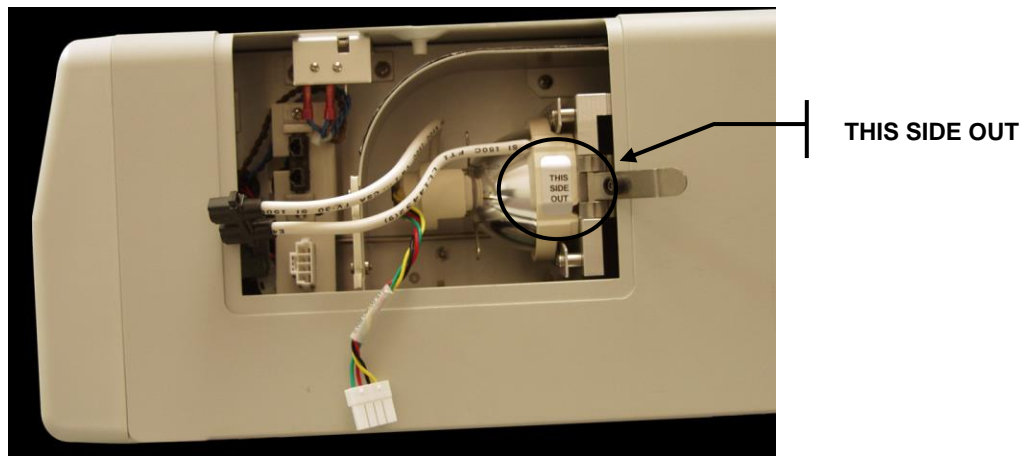

Figure 5 Lamp Orientation
4.1.5 Position the lamp so that the two leading edges of the lamp ceramic mount slide into the groove of the lamp bracket. The middle of the lamp should be in position to fit into the spring clamp. Reference Figure 5
Tip: Make sure that the “This side out” label is facing outwards before trying to insert the lamp as illustrated below. Reference Figure 5
- 4.1.6 Slide the lamp all the way in so that both leading edges of the lamp ceramic mount are in the groove of the lamp bracket. The middle of the lamp will snap into the spring clamp. Close the lamp bracket arm. Reference Figure 5